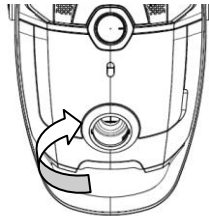

Fig 11
- Open the front cover by touching front cover button. (Fig 11)